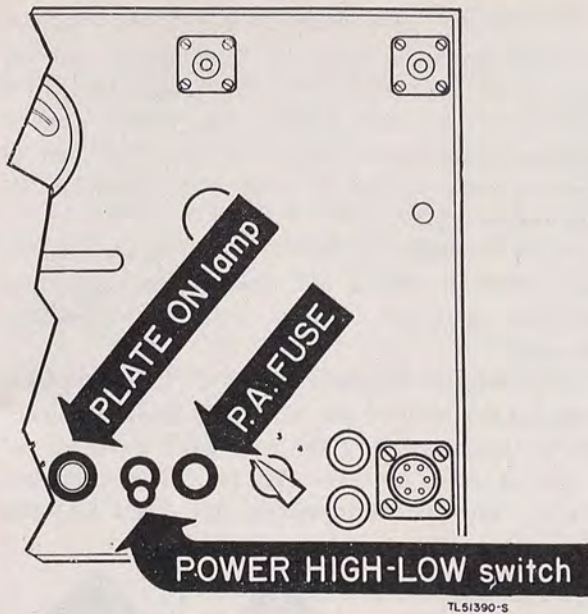

Figure 7. PLATE ON lamp, P. A. FUSE, and POWER HIGH-LOW switch, Radio Transmitter T-14(\*)/.
(8) Plate on lamp (fig. 7). Lights when primary circuit is closed.
(9) Power high-low switch (fig. 7). In LOW POWER position, low screen voltage is applied to stage V9, limiting the plate current that can be drawn by this tube to a safe value during the transmitter tuning operation.
(10) P. A. fuse (fig. 7). A 150-ma fuse to protect tube V9 from overload.